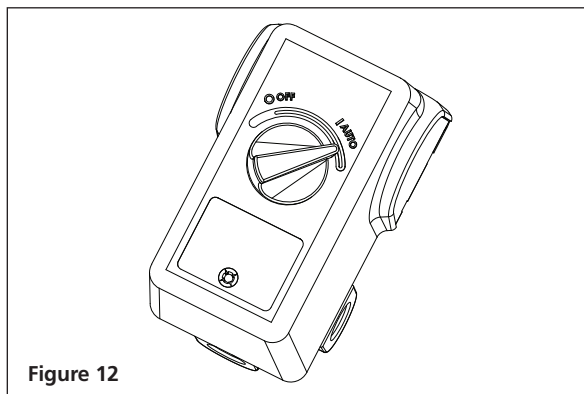

Figure 12
4. Move pressure switch to the **AUTO** position to run the unit (see Figure 12).
5. Run the unit for thirty (30) minutes at zero (0) PSI (under no load) to break in pump parts.
7. Change oil after first fifty (50) hours of operation. Perform oil changes every three (3) months or two hundred (200) hours of run time, whichever comes first.